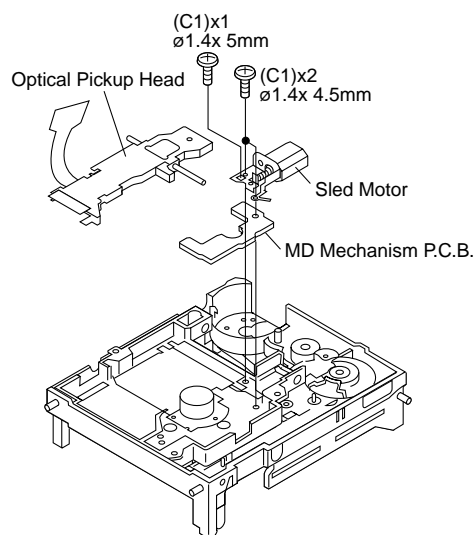

Fig. 6
**Removal of Sled Motor/Optical Pickup Head (Fig. 6)**